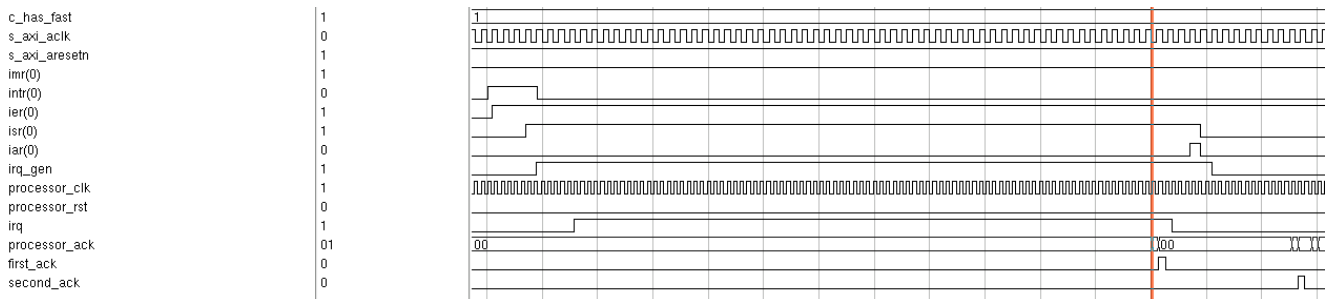

Figure 18: Input Intr - Edge Sensitive (Rising), C_HAS_FAST = 1 and IMR(i) = '1'
- Configured Input Interrupt (Intr) for Edge sensitive (rising), include fast logic to High (C_HAS_FAST = 1) and mode set to fast interrupt mode (IMR(i) = 1). Timing diagram is shown in Figure 18.